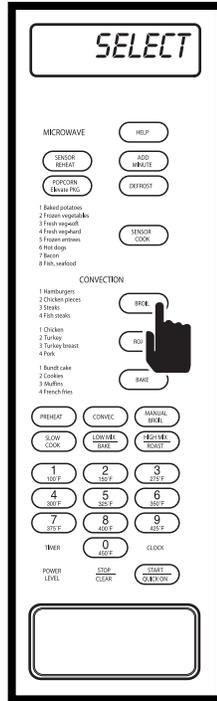

Figure 3-94.
1. Press BROIL key, “SELECT - FOOD - NUMBER” will flash on display. (See Figure 3-94)